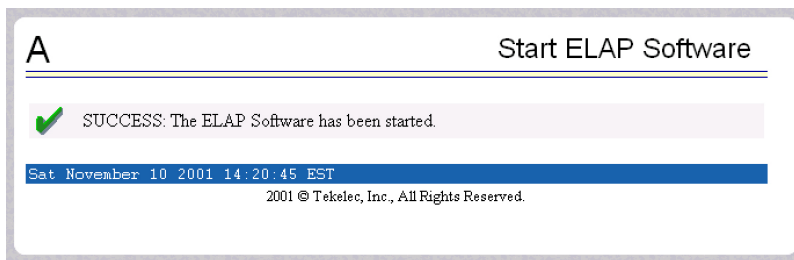

Figure 49: Start Software Completion Screen
- The screen shown in Figure 49: Start Software Completion Screen confirms that the software has started: